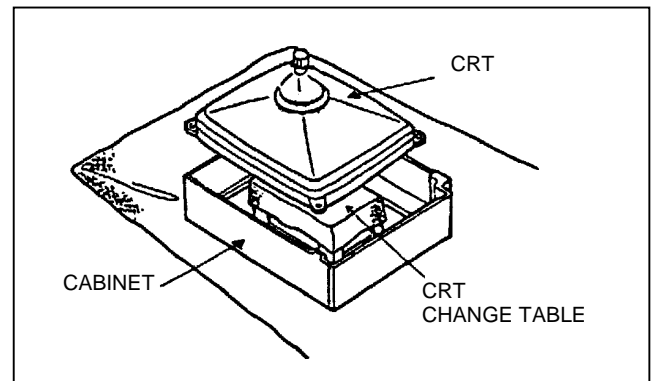

Fig. 6
5. After 4 screws have been removed, put the cabinet slowly on cloth. At this time, be carefully so as not to damage the front surface of the cabinet as shown in Fig.6.